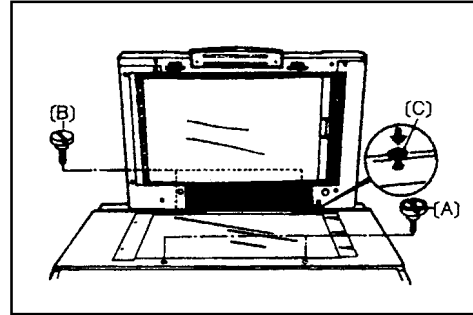

Fig. 1
2. Remove 2 front screws fixing the top cover and secure 2 stud screws for the magnet catch [A]. (Fig. 1)
3. Secure 2 hinge stud screws [B] half way and mount the ADF so that the holes in the ADF hinge bracket are aligned with the studs, then slide the ADF to the right. (Fig. 1)
4. Secure the ADF hinge bracket to the copier optics frame with 2 screws (M4 x 12) [C]. (Fig. 1)